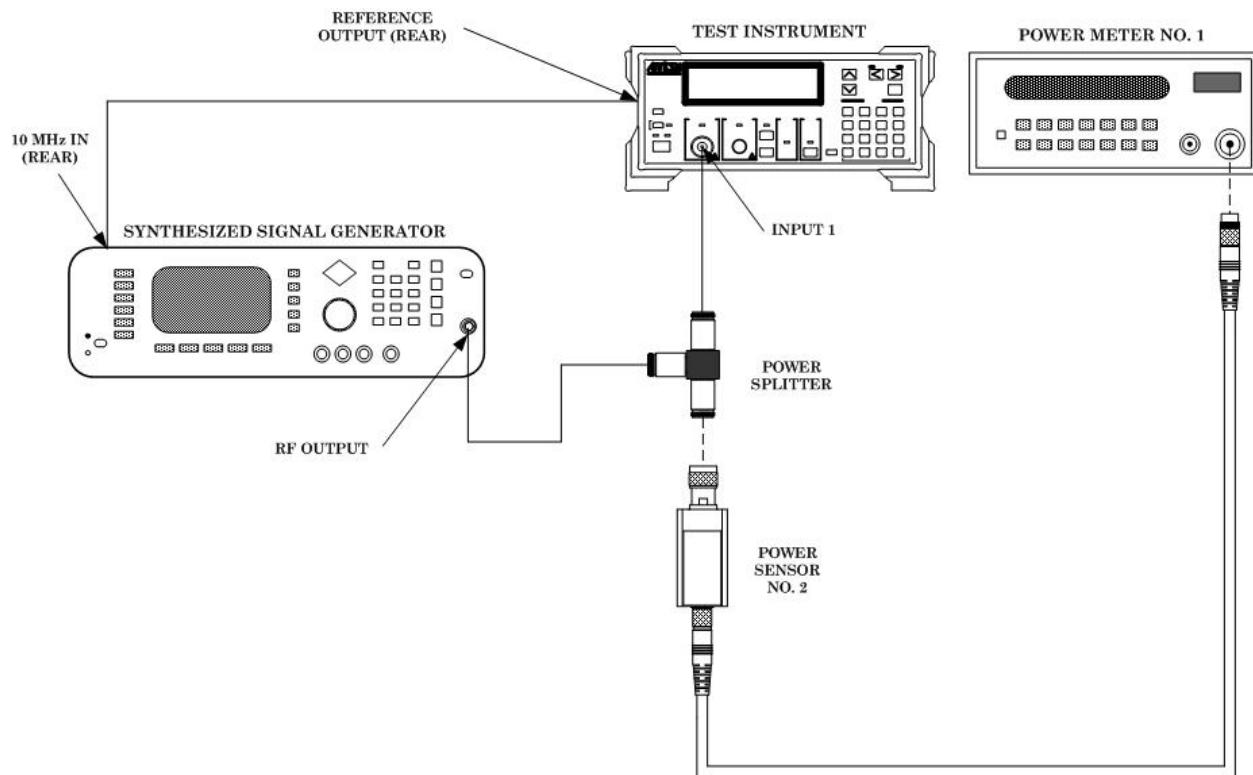

Figure 3. Input 1 sensitivity (600 MHz to 18 GHz).
- (1) Connect equipment as shown in figure 3.
- (2) Press TI keys as listed in (a) through (f) below:
- (3) Adjust synthesized signal generator frequency to 600 MHz and RF output amplitude controls for a -33 dBm indication on power meter no. 1. TI will indicate within limits in first row of table 5.
(1) Connect equipment as shown in figure 3.
(2) Press TI keys as listed in (a) through (f) below.
(3) Adjust synthesized signal generator frequency to 600 MHz and RF output amplitude controls for a -33 dBm indication on power meter no. 1.
(4) Press TI keys as listed in (a) through (i) below.